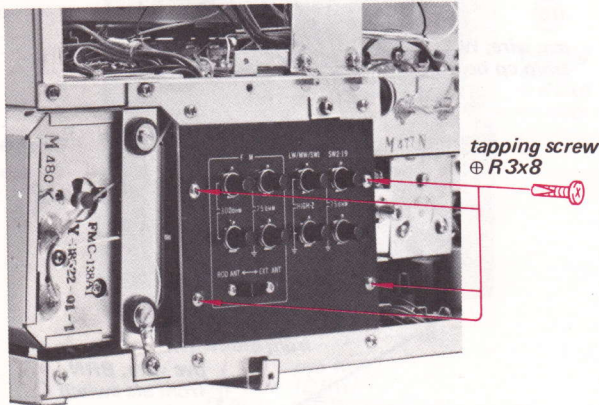

Fig. 2-15
1. Remove the four screws shown in Fig. 2-15.